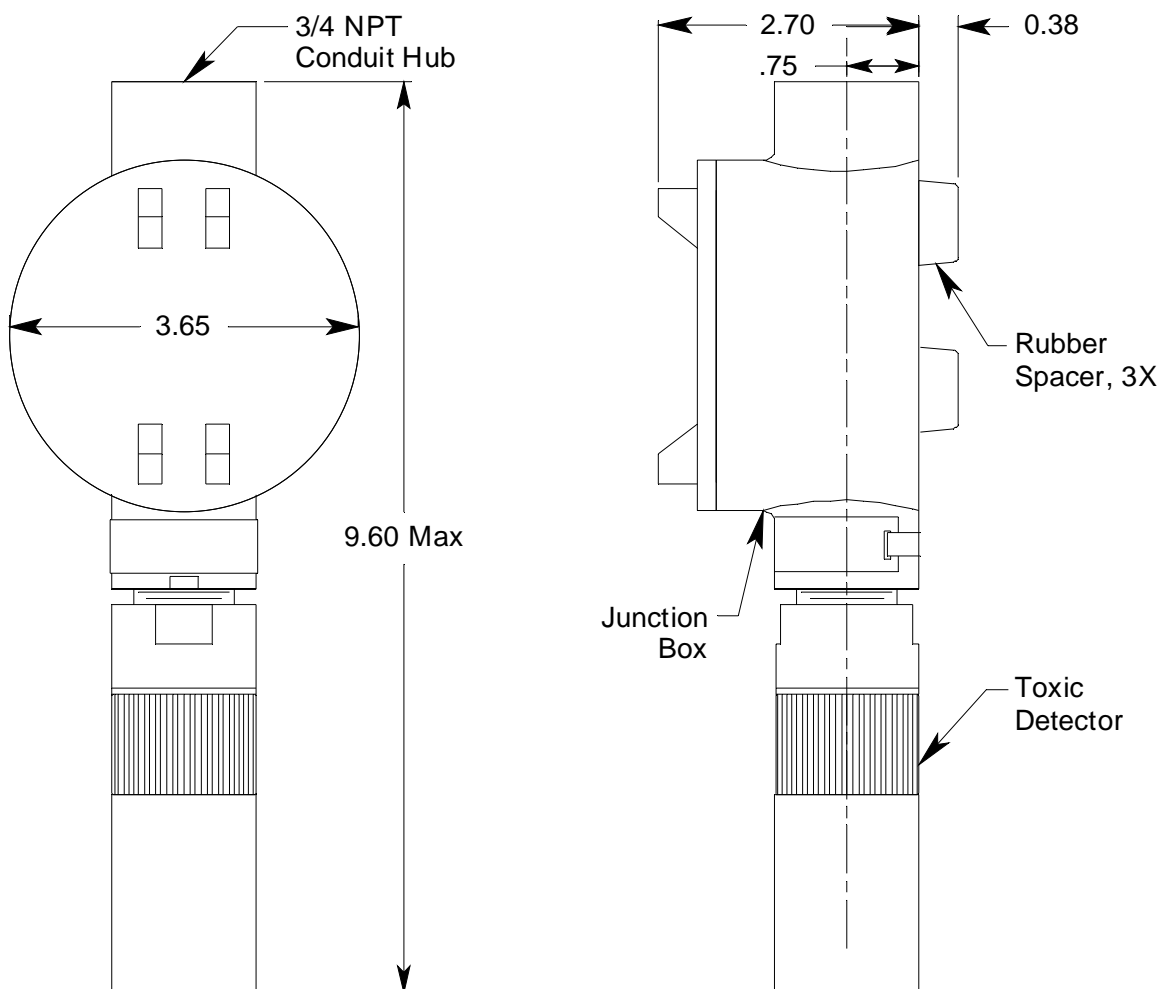

Figure 3: Mounting the Toxic Gas Transmitter
2. At the monitoring site you select, hang or mount the junction box with the detector facing down (see Figure 3).